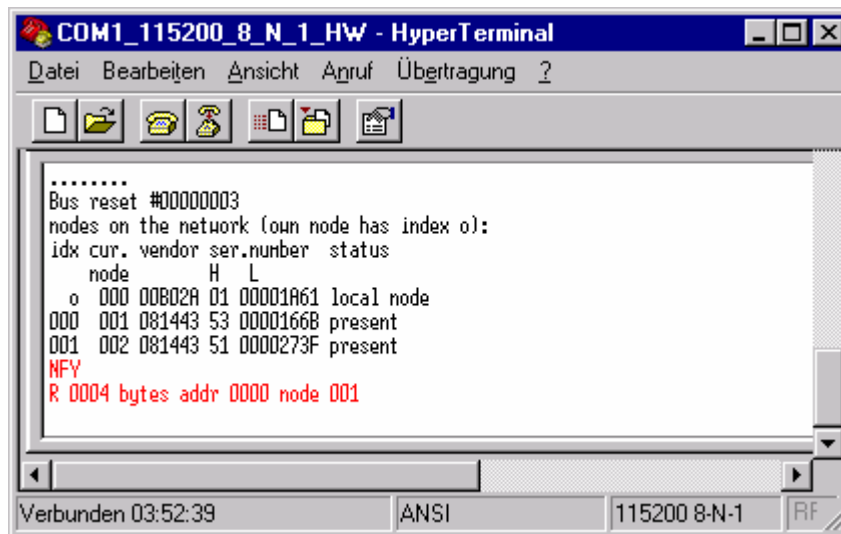

Figure 18: Incoming asynchronous transactions (terminal window)
- in the terminal window, `async_1394` displays the incoming event (through the notify callback) as shown in Figure 18.